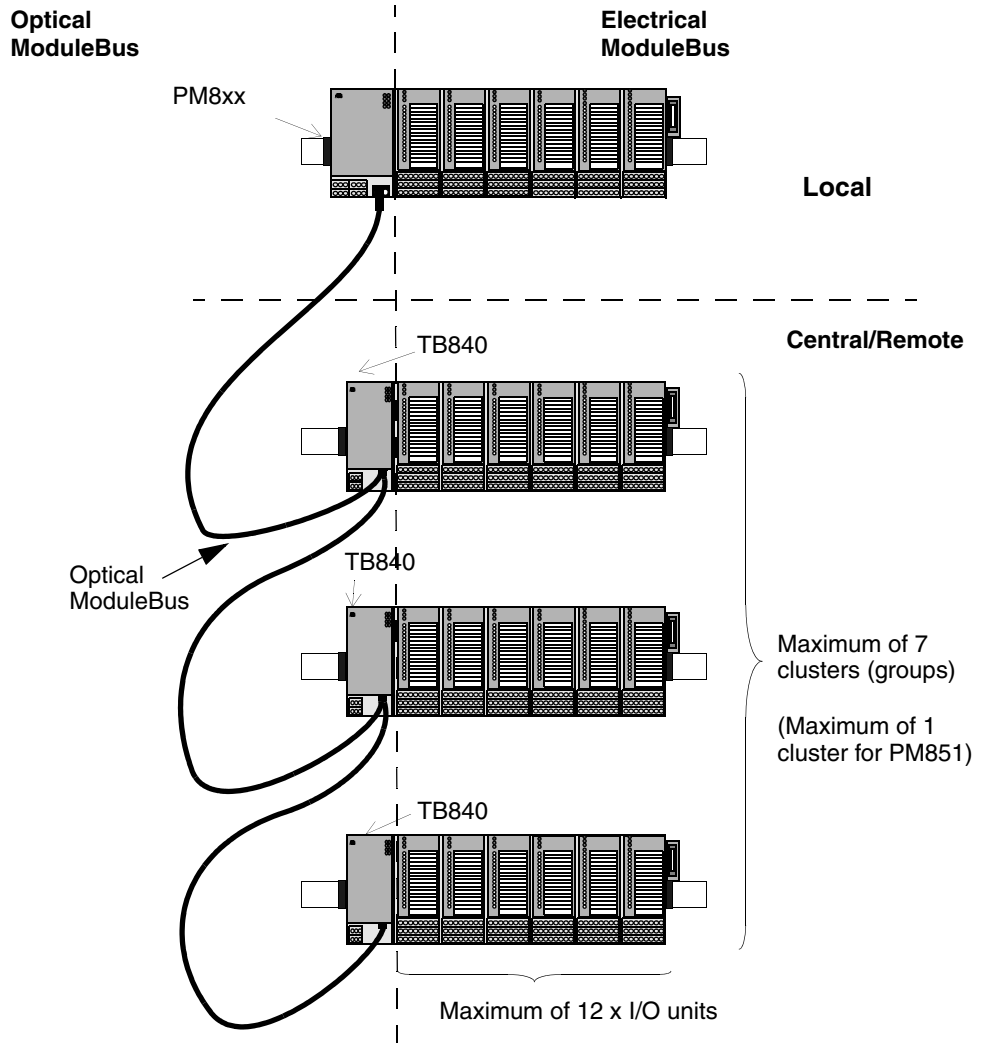

Figure 59. Electrical and Optical ModuleBus Configuration
- Electrical ModuleBus, (see Figure 59 on page 168) – 1 cluster (group), with a maximum of 12 S800 I/O units connected.
- Optical ModuleBus (see Figure 59 on page 168) – 7 clusters (groups), with maximum $7 \times 12 = 84$ S800 I/O units connected.